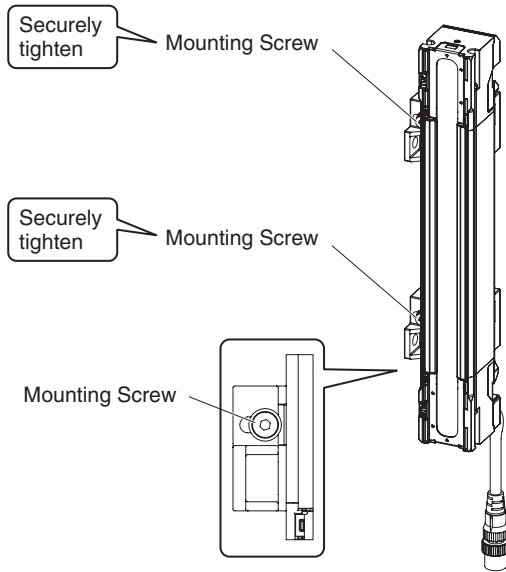

Fig. 3
- Securely tighten the Mounting Screws to fix the Side-Mount Bracket to the yellow area of the sensor housing. The recommended torque to tighten the Mounting Screws is 3.0 N•m. Then loosen the Alignment Screws (Fig. 3)